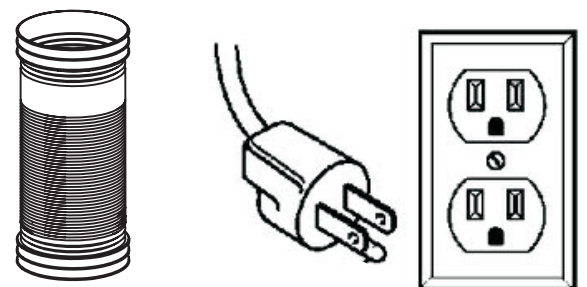

fig. 4
**Step 5:** Make your electrical and ducting connections. Use 8" rigid duct wherever possible. Try and minimize the use of elbows. More elbows and longer runs create higher static pressure. The hood comes with a grounded three prong plug that can either be direct wired or plugged into a 20 amp. circuit. fig. 4